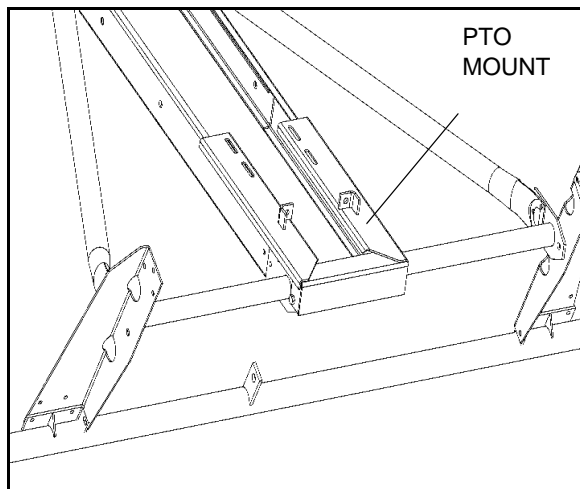

Figure 3.42 PTO Mount Installation
1. Attach PTO mount base to auger frame with two 5/8" x 1-1/2 bolts and locknuts (Figure 3.42).